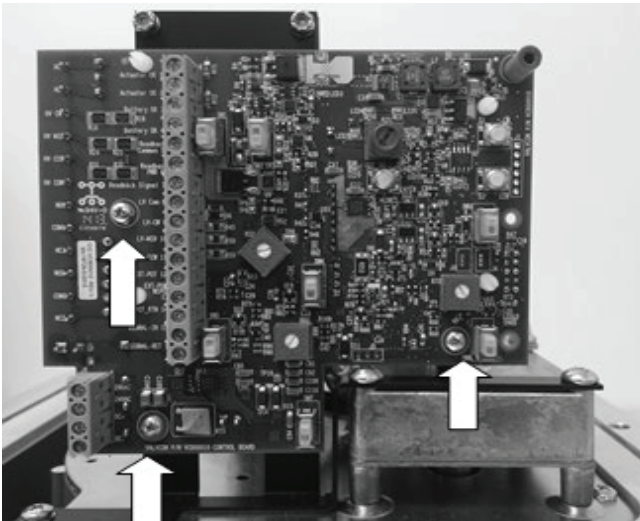

Figure 3.
- 4.5 Remove the three Philips screws that hold the Universal Control Board in place with the #1 Philips screwdriver, and save them for later use, see Figure 3.